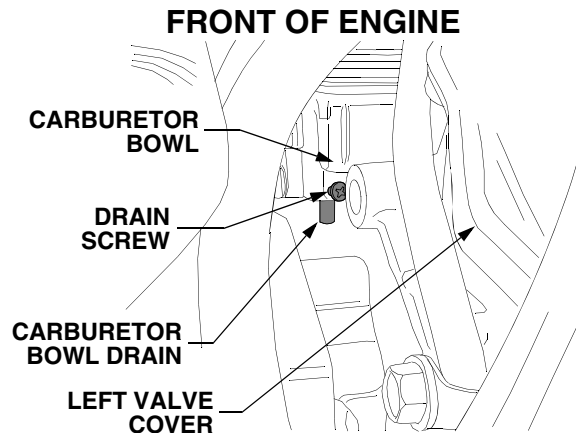

Figure 51
- Place a small container or rag beneath the carburetor bowl drain and loosen the drain screw to completely drain the fuel from the carburetor. See Figure 51.